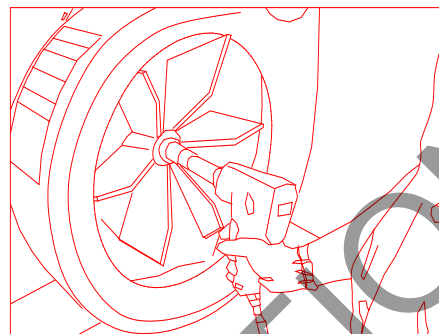

Fig. 17
2. Disconnect the negative battery cable (black) (item 89) from the battery.
5. Remove the intake housing assembly (item 11) using 9/16" socket and socket wrench to remove (12) locknuts (item 55). Be careful to place intake assembly to the side without putting excess strain on safety switch wire harness.
6. Remove impeller bolt and lock washer by using an impact wrench (see Fig. 17).